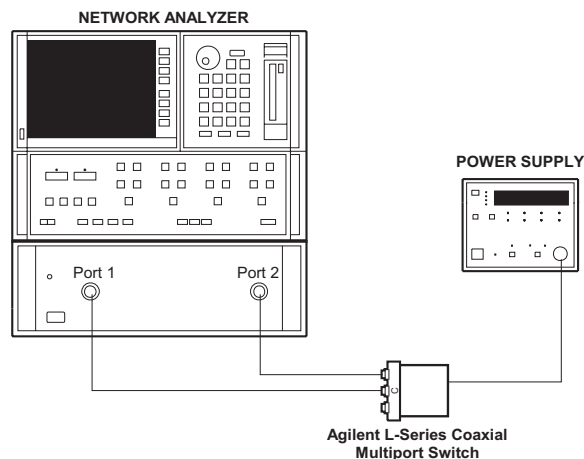

Figure 8 Connection to Perform Quick Check
1. Connect common port of switch to Port 1 of the network analyzer and one of the outer RF ports to Port 2 of network analyzer as illustrated in Figure 8.